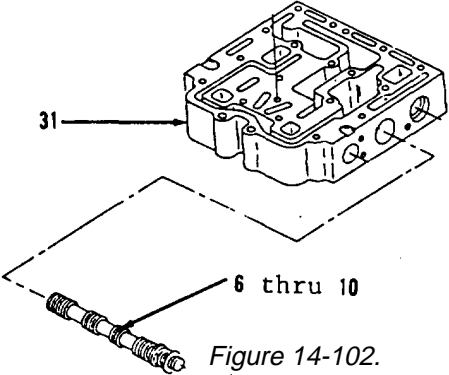

Figure 14-102.
- 11. Install items 10 thru 6 as an assembly in body (32, Figure 14-102).